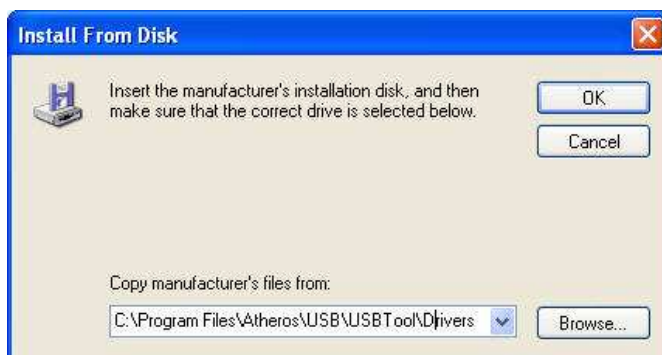

Figure 1-17. Copying the Driver
11. Select the correct pathname for the driver and click **OK** as shown in Figure 1-17.